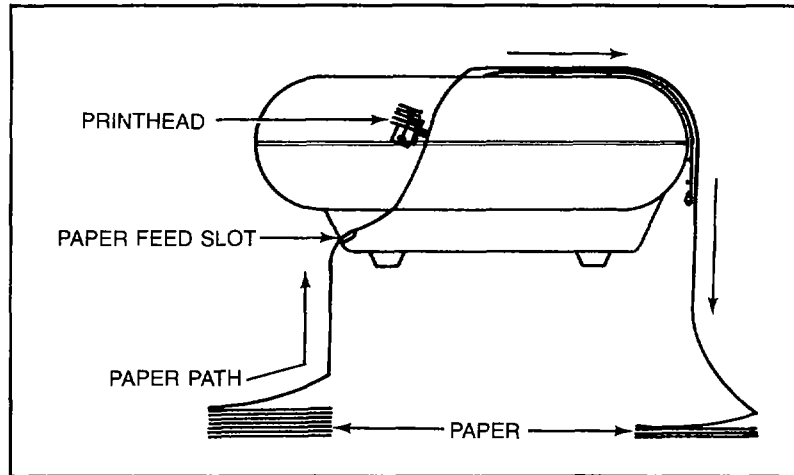

Figure 2-6. Printer Paper Path
2. Set a box of pin-feed paper under the printer (Figure 2-6). Pull the forms thickness lever forward to the widest platen spacing position to allow room to slide the paper into place. Open the tractor gates and feed the paper through the front slot in the bottom of the printer, under the paper tensioner and onto the tractor pins.